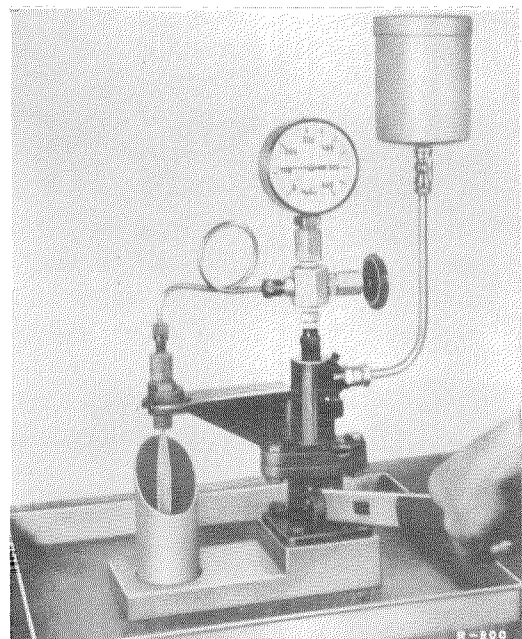

Figure 07-18/9
If the nozzle leaks at the thread of the cap nut, do not try to eliminate the leak by additional tightening of the cap nut. If the nozzle holder insert (3) does not seal properly, it can be leveled on either side (see Figure 07-18/3) with lapping compound on a surface plate, the same is true for the front end of the nozzle holder (7). Sometimes it will even be sufficient if the nozzle holder insert is only turned and the cap nut is again tightened according to instructions.